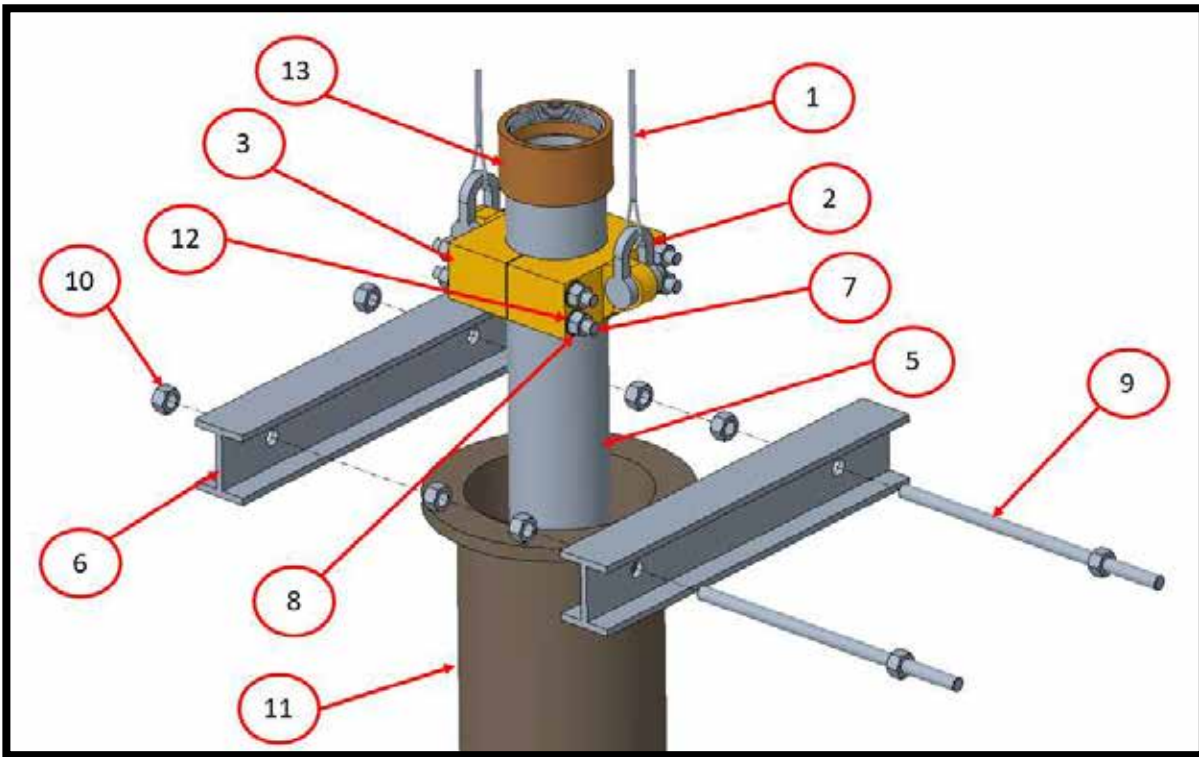

Figure 2 – Threaded column of VIS (Submersible) pump
2. Install the Bolts (7) and Nuts (8) making sure to torque to recommended values based on fastener diameter. See the Appendix for the recommended Torque values based on Carbon Steel Fasteners.
3. Inspect the assembly to verify that the column flange is resting on the top of the lifting clamps and the bolts and nuts are installed. See Figures 2, 3, and 4 for an overview of how the parts will be assembled.